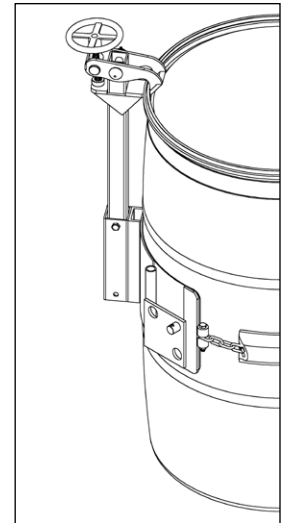

Figure 2.2
- The **Top Rim Clamp** (Part # 4560-P) grips the upper rim of your drum to prevent it from slipping through the drum holder (see figure 2.2). To handle a 55-gallon plastic drum with top rim, you **must** install either the Bracket Assembly or the Top Rim Clamp. You can use the Top Rim Clamp with a 55-gallon plastic, steel or fiber drum with suitable top rim.